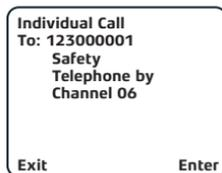

Figure 20
6. A summary of your selected options are displayed. If everything is correct press Enter to call or Exit to cancel (fig 20).